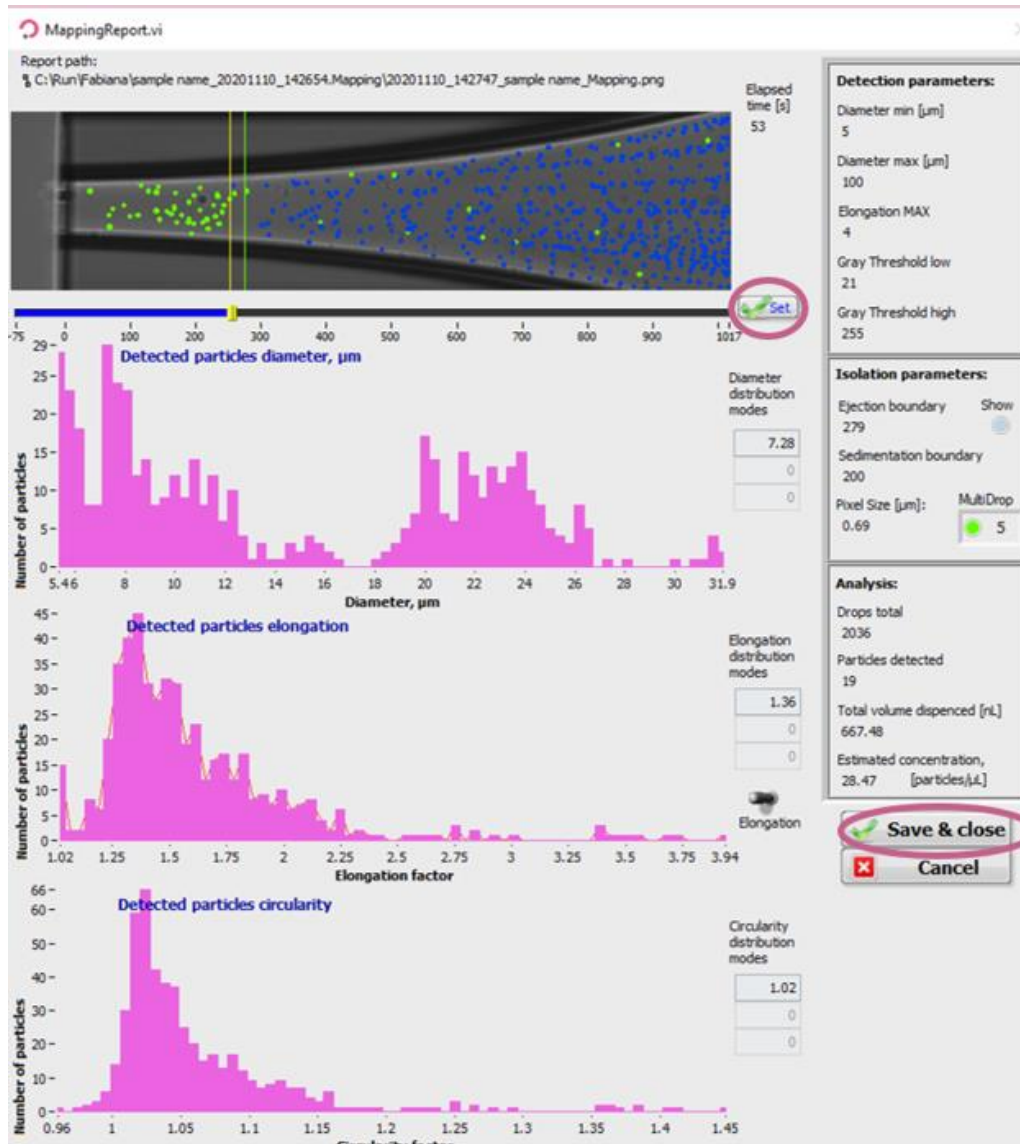

Figure 17. Mapping.
At the end of the mapping process, the ejection boundary is set automatically according to the blue and green dot distribution inside the PDC (Figure 17). Cells that were detected in the location of **blue dots** were subsequently detected again inside the PDC upon next droplet generation. Whereas **green dots** correspond to the last seen location of a cells within the PDC (i.e., upon next droplet generation these cells were ejected from the PDC). Once done, click “Save & close”.
**Note.** At the end of the mapping process, the ejection boundary is set automatically according to the blue and green dot distribution inside the PDC. To adjust the ejection zone manually, move the slider by clicking and dragging the positioner on the ruler below the image, press “Set” to validate, then “Save & close” (Figure 17).
**Isolation parameters:** These parameters can be determined from the characteristics of the cells shown in the mapping report (Figure 17) and adjusted as needed to include only cells of interest. These values are critical to ensure satisfactory single cell isolation. All objects that fulfil the isolation parameters and single cell condition will be isolated.